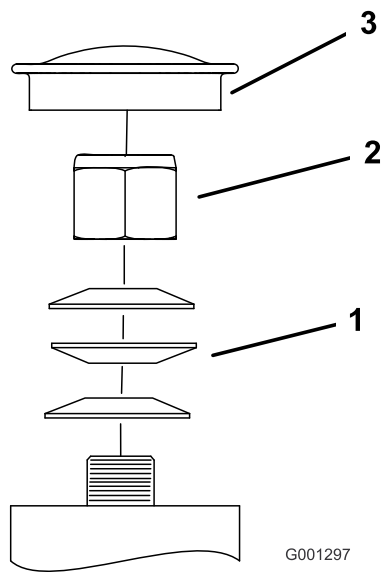

Figure 61
3. Remove the dust cap from caster and tighten lock nut (Figure 61).
4. Tighten the locknut until the spring washers are flat and then back off a 1/4 turn to properly set the pre-load on the bearings (Figure 61).
Important: Make sure spring washers are installed correctly as shown in Figure 61.
5. Install the dust cap (Figure 61).